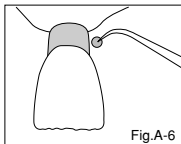

Fig.A-6
- d) Apply GC Cocoa Butter or GC Fuji VARNISH or GC Fuji COAT LC to the area again (Fig.A-6).